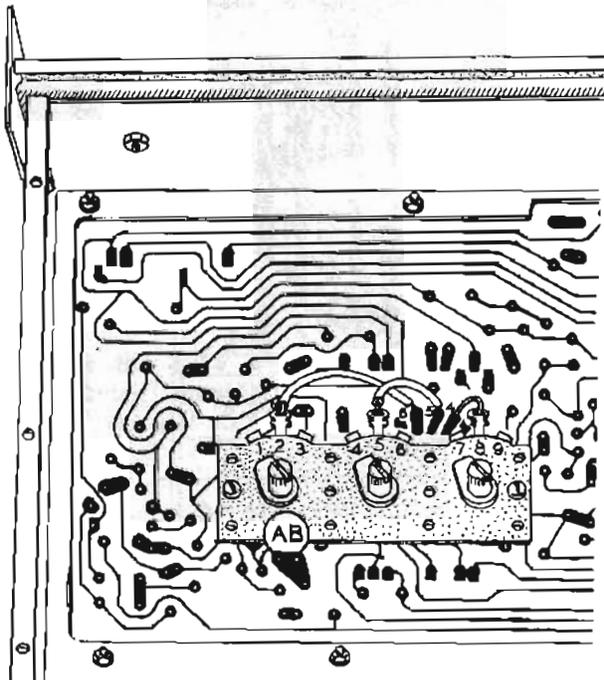

Figure 18
- () Install another triple 250 K Ω control AB. See Figure 18.